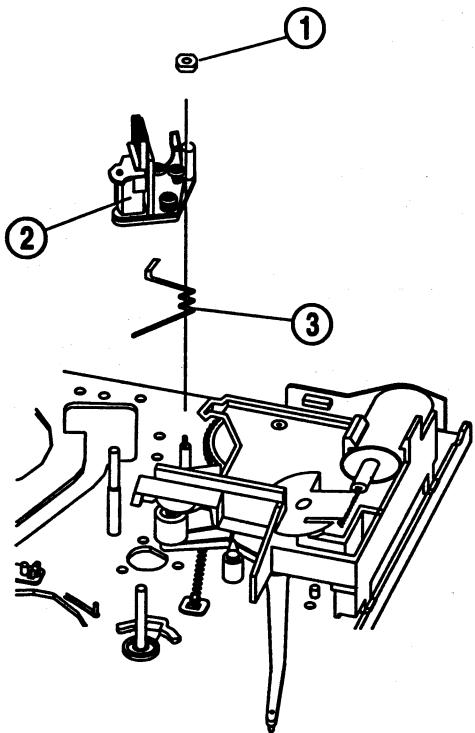

Fig. 21- A/C Head Assembly Removal
#### A/C Head Assembly Removal (Fig. 21)
1. Remove one (1) nut hex from the A/C head assembly ① (Fig. 21)
2. Remove the A/C head assembly ② and remove the A/C head spring ③ from the A/C head assembly ②.